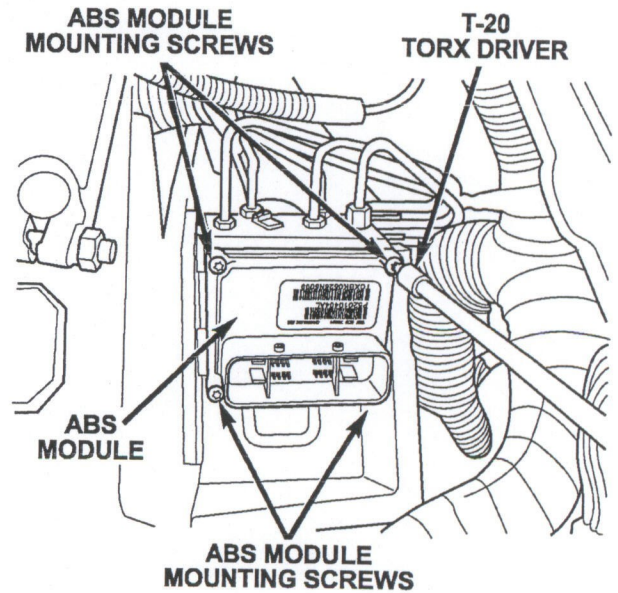

Figure 3
4. Using a T-20 Torx driver, remove and discard the ABS control module mounting screws (Figure 3).